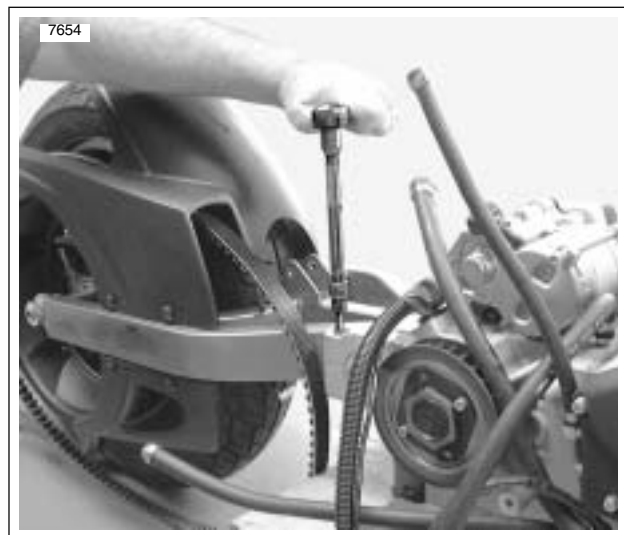

Figure 3-18. Swingarm Pivot Shaft Pinch Bolt
36. See Figure 3-18. Loosen swingarm pinch bolt.